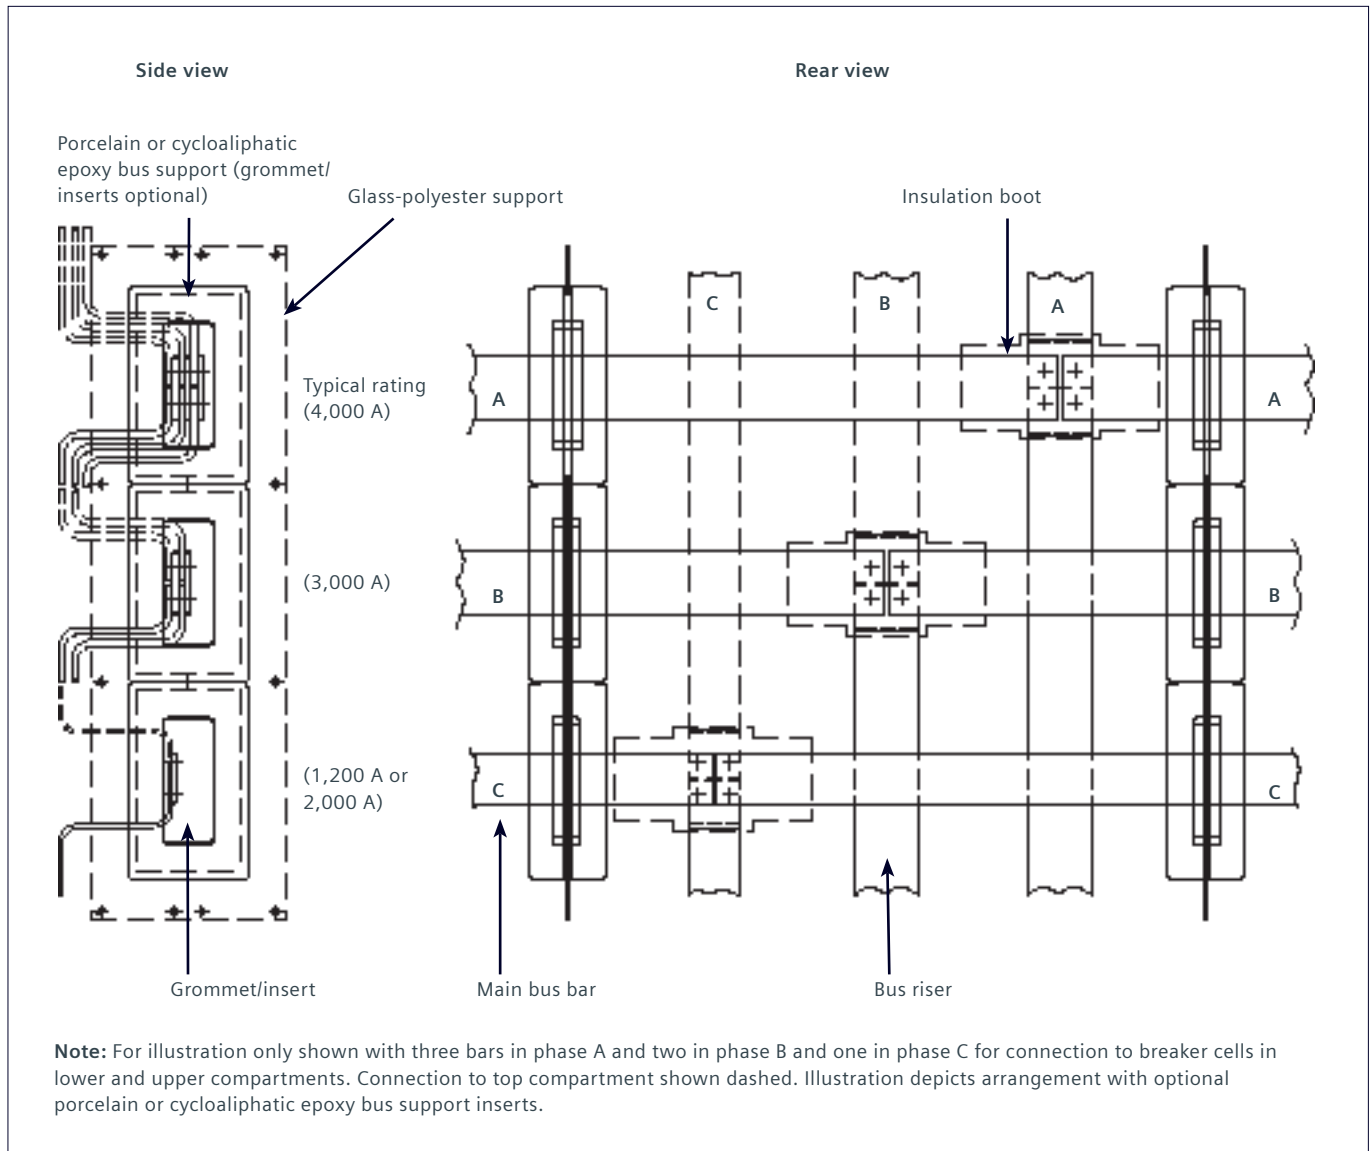
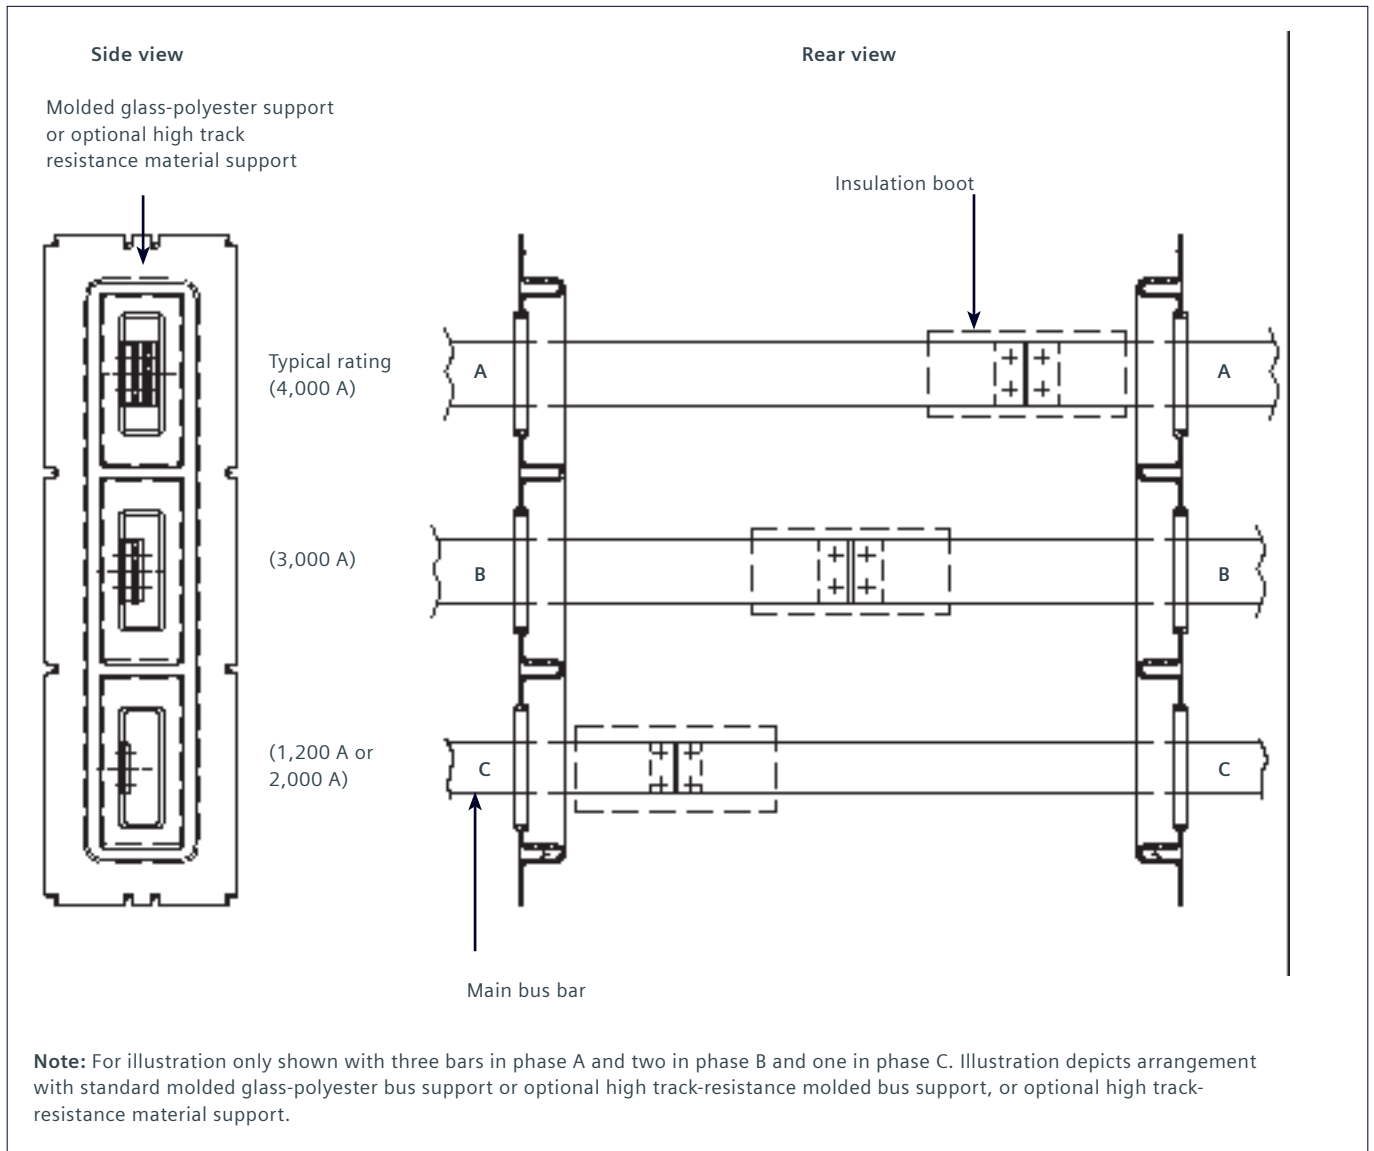
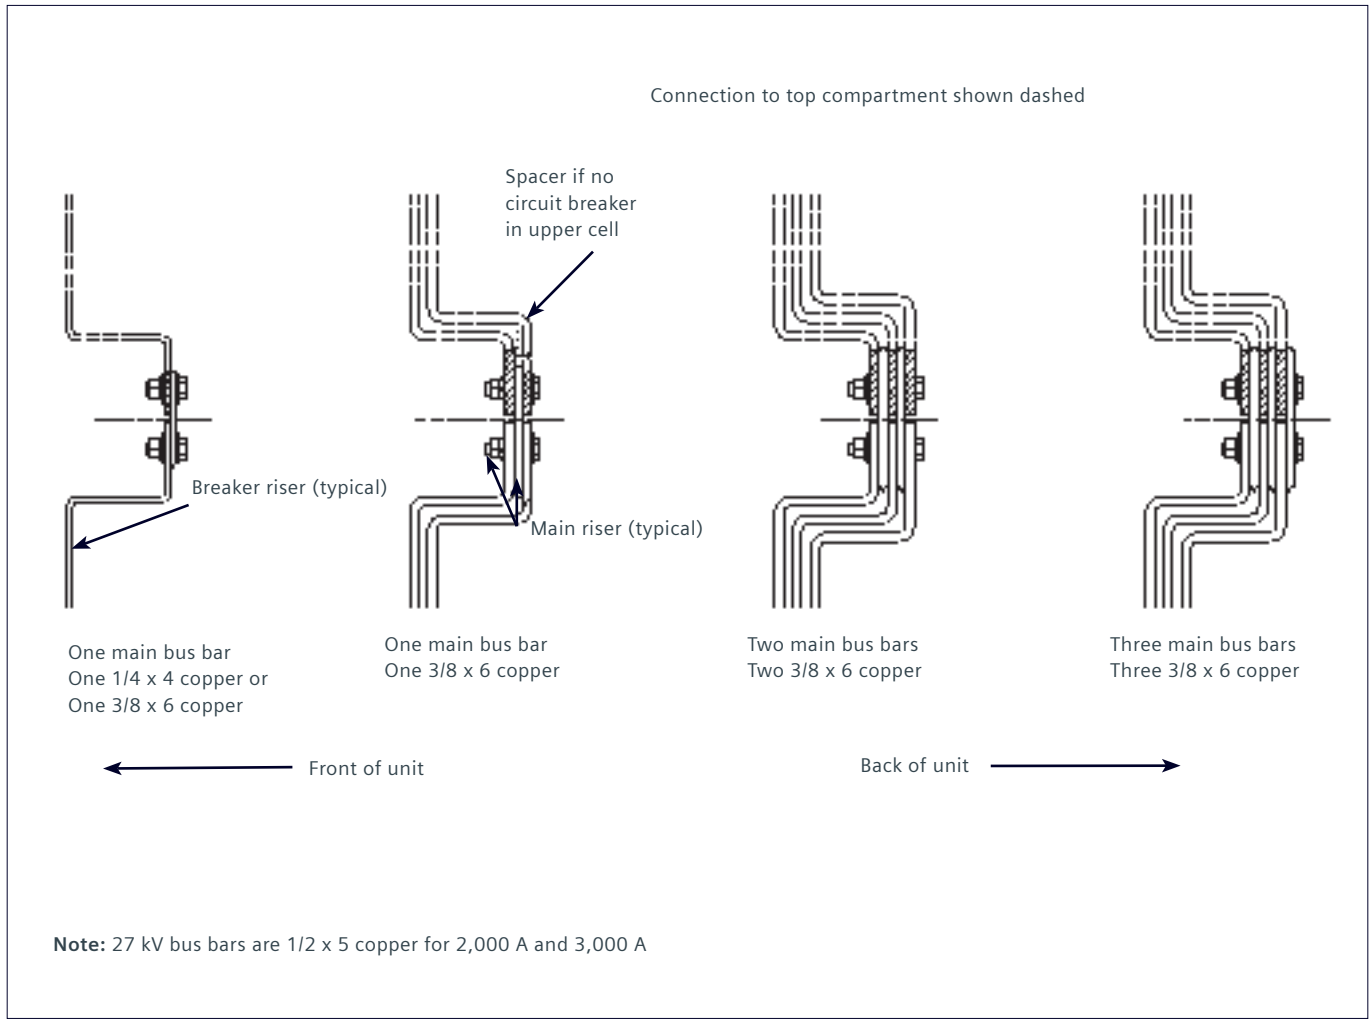

Figure 16: Main bus joints-circuit breaker
Figure 17: Main bus joints-auxiliary section
Figure 18: Main bus joints connection configuration
When a switchgear lineup is split for shipping purposes, the primary bus and ground bus connections must be made when installing the switchgear. These bolted connections are relatively simple to make. Refer to Figure 16: Main bus joints-circuit breaker section, Figure 17: Main bus joints-auxiliary section, Figure 18: Main bus joints connection configuration and these instructions.
6. Use proper hardware. Heavy flat washers are used on both sides of the bus bar joint under the cap screw head and as well as under the nut and lockwasher. These washers ensure an evenly distributed force around each bolt, producing a low-resistance joint. Proper torque value produces a joint of adequate pressure without cold flow (refer to Figure 18: Bus bar joint assembly).
- 7c. Spacers are required at certain bus joints to insure the cross sectional area of the joint. The conditions where these spacers are required vary with the type of bus joint (refer to Figure 18: Main bus joints connection configurations).